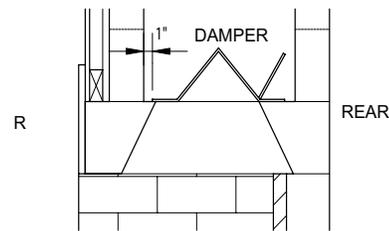

FIGURE 17
Step 7: With the damper beams assembled and mortared together, set the cast iron throat damper (unless another damper type is being used) on top of the damper beam and over the smoke chamber opening. The cast iron damper's operating plate should face toward the rear of the fireplace. (Figure 17) The flange at all four sides of the cast iron damper should be supported by the damper beam's top surface.
Step 8: Position the cast iron damper so that its front flange is approximately one inch (1") away from the inside face of the front smoke dome component. (Figure 17)